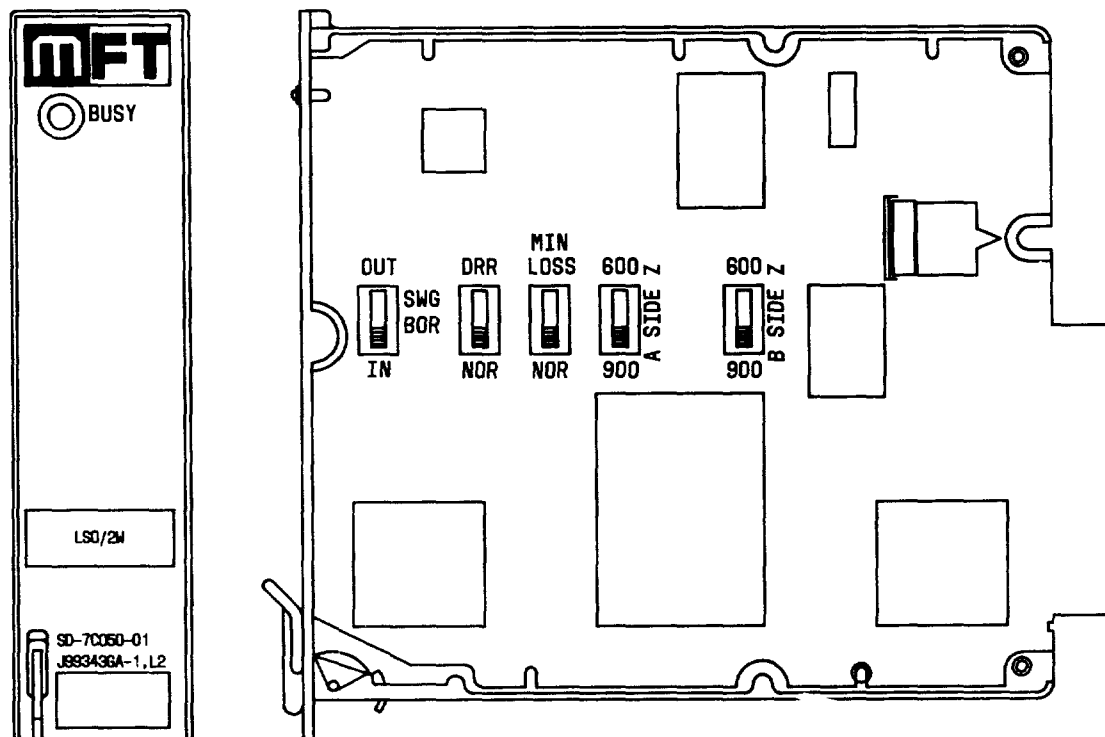
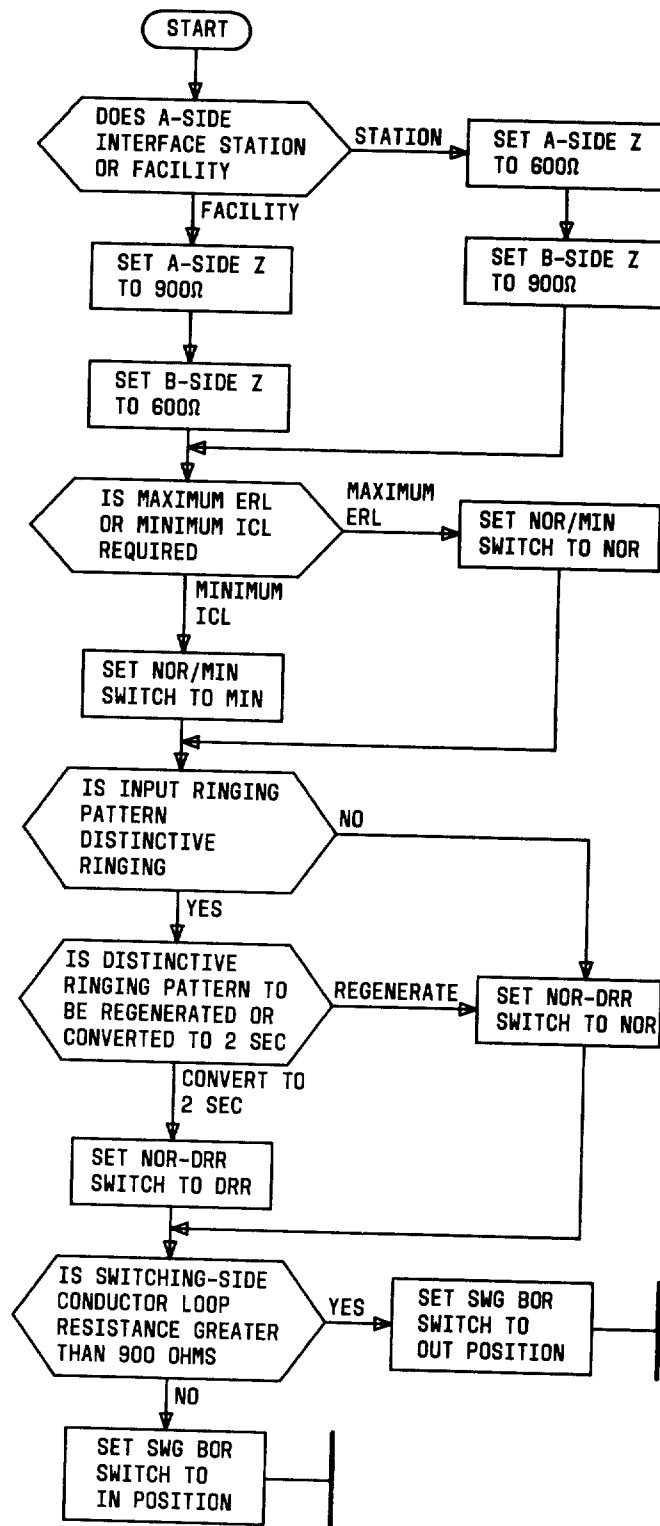
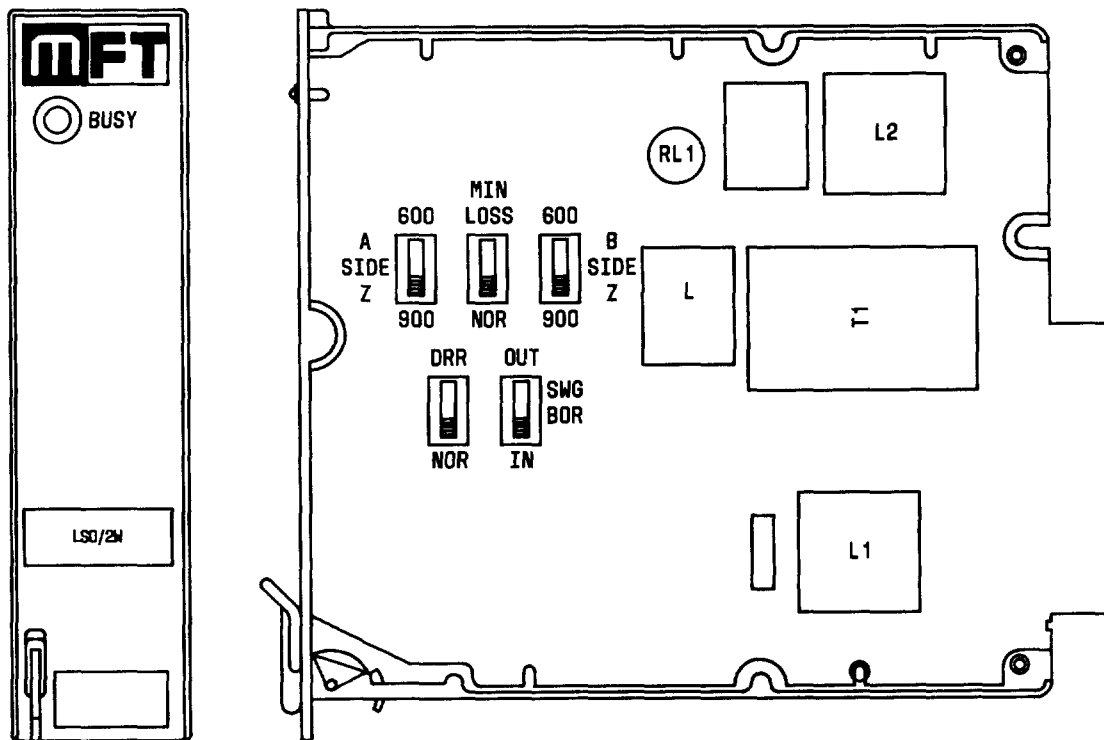

Fig. 3—Component Layout, J99343GA, L2
Fig. 4—Typical Initial Switch Setting Decision Process for J99343GA, L2, L3
Fig. 5—Component Layout, J99343GA, L3
3.01 The J99343GA, L2, shown in Fig. 3, provides the functions of a 2-wire passive transmission unit and a loop signaling repeater, loop-start only signaling unit on a single MFT plug-in. The CFUs can be used in either a single- or a double-module arrangement. They can be mounted in any slot of a single-module shelf or in the transmission slot of a double-module shelf. In double-module applications, the companion signaling unit slot must be vacant. Section 332-910-101 contains additional information on MFT mounting arrangements.
3.02 Figure 3 shows the location of the individual switches. The initial settings are determined by circuit application and are to be provided by the local circuit layout organization. Figure 4 illustrates a typical decision process to aid in determining the
**4.01** The J99343GA, L3, shown in Fig. 5, provides the functions of a 2-wire passive transmission unit and a loop signaling repeater, loop-start only
**4.02** Figure 5 shows the location of the individual switches. The initial settings are determined by circuit application and are to be provided by the local circuit layout organization. Figure 4 illustrates a typical decision process to aid in determining the initial switch settings of the unit. The following paragraphs provide a brief description of the individual switches.